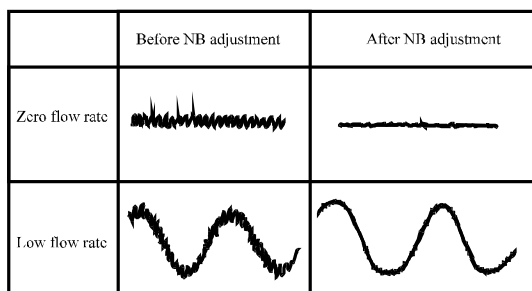

Figure 6.4.1: TP2-COM2 Waveform
- 1) Connect an oscilloscope between test points TP2 and COM2 and observe the signal waveform. Access parameter H01 and make adjustment throughout the range of possible values to obtain the lowest noise component of the waveform. See Figure 6.4.1 below for waveform examples.